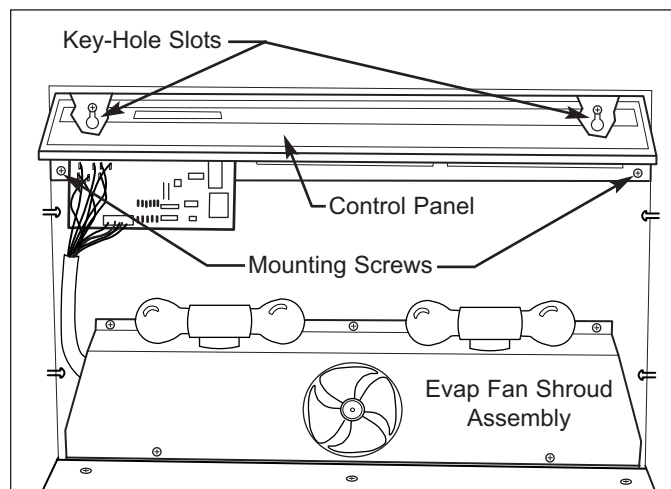

Figure 7-15. Control Panel Removal
2. Push panel toward rear of unit to release the front screws from key-hole slots, then lower panel down and pull out of unit. (See Figure 7-15)